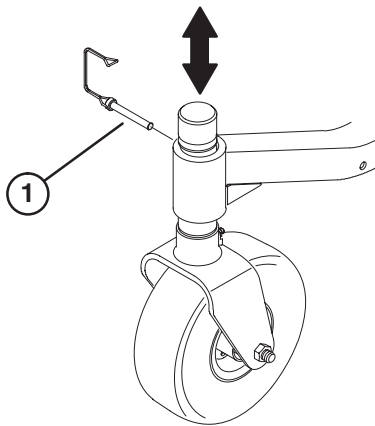

Figure 8
2. Remove front snapper pins from castor arms and slide castor wheel assembly up or down (Fig. 8).